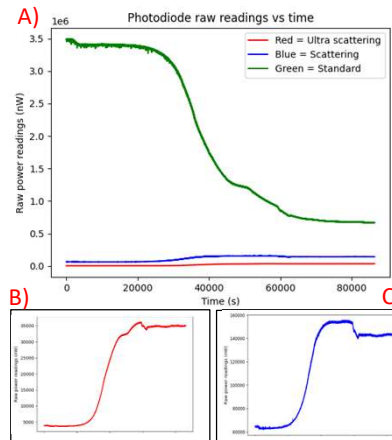
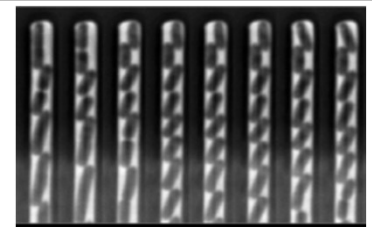

Fig 2. A) All results B) Ultra scattering C) Scattering. – 750nm LED.
Fig 3. Imaged cellular data from mother machine. [2]
- Investigation into the correlation between the transmittance OD values (Fig 2.) and the cellular size data (Fig 3.) will be conducted (with and without OD control). Holding OD at a specific target over a temporal frame would allow single cell level insight to perturbation in cell characteristics such as size/stress.